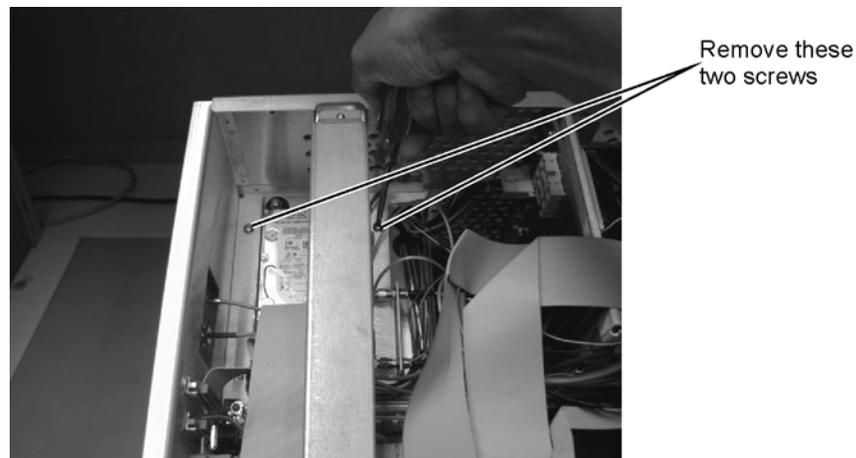

Figure 7-21. Removing the Screws on Top of the Hard Drive
- 3 Remove the two screws located on either side of the hard drive, as shown in Figure 7-21.